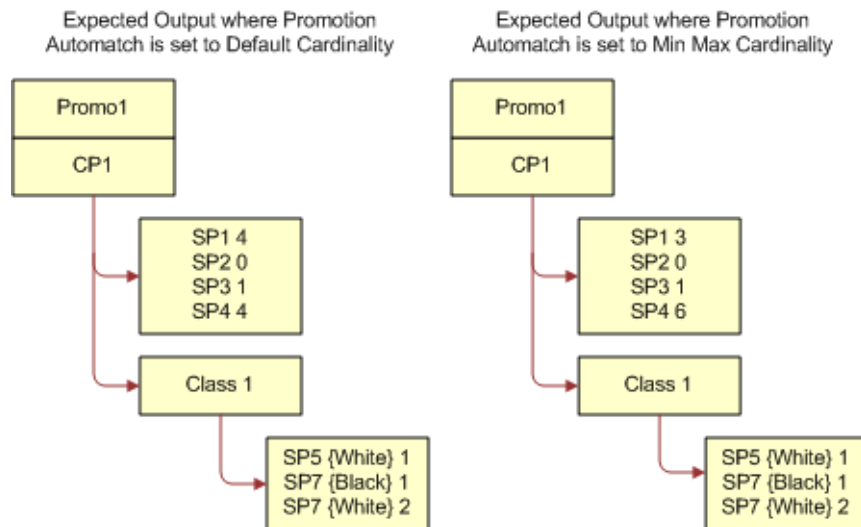

Figure 11. Expected Output
- 3 The expected output when you apply a promotion (Promo1) to a customizable product (CP1) that is based on the Promotion Automatch argument value is shown in Figure 11.
Figure 11 shows the expected output when Promotion Automatch is set to Default Cardinality, which is as follows: SP1 has a default quantity of 4, SP2 has a default quantity of 0, SP3 has a default quantity of 1, and SP4 has a default quantity of 4. SP5 has a default quantity of 1 and the attribute value White. SP7 has a default quantity of 1 and the attribute value Black. SP7 has a default quantity of 2 and the attribute value White.
Figure 11 shows the expected output when Promotion Automatch is set to Min Max Cardinality, which is as follows: SP1 has a default quantity of 3, SP2 has a default quantity of 0, SP3 has a default quantity of 1, and SP4 has a default quantity of 6. SP5 has a default quantity of 1 and the attribute value White. SP7 has a default quantity of 1 and the attribute value Black. SP7 has a default quantity of 1 and the attribute value White.
Figure 11 shows the expected output when Promotion Automatch is set to Default Cardinality, and when Promotion Automatch is set to Min Max Cardinality.